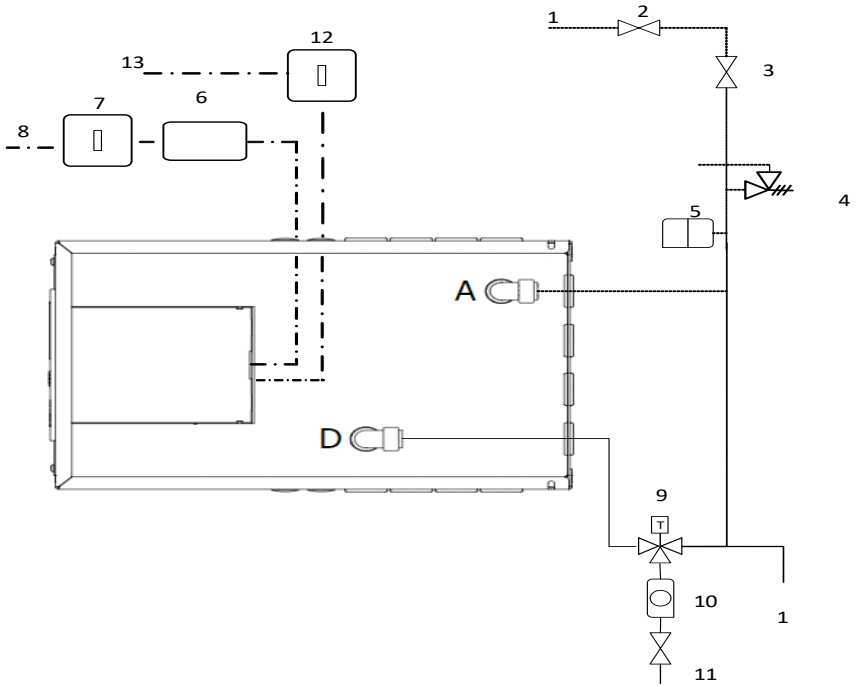

Figure 13.1: Example wiring option 2 schematic (see Figure 3 for tubing and electrical options available)
- Run and connect 3 core mains power supply cable (16A, minimum 2.5mm2 CSA) from the local 2-pole isolator 13A to the Heat Battery controller (Figures 13.1 and 13.2).
- Prepare, if necessary and wire the mains power cable in the following terminals (Figure 13.1):